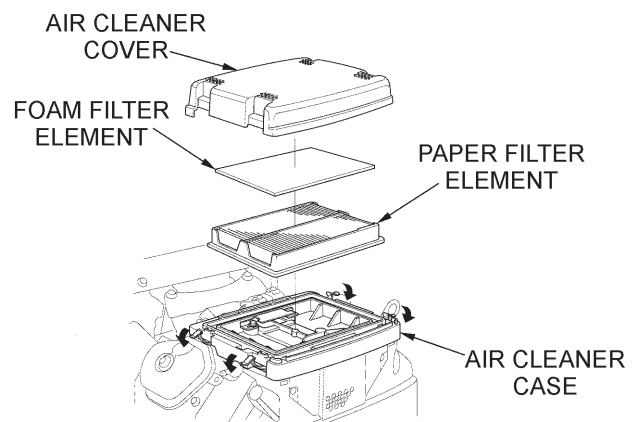

Figure 15. Air Cleaner Components
1. Release the four latch tabs (Figure 15) from the air cleaner cover, and remove the cover.